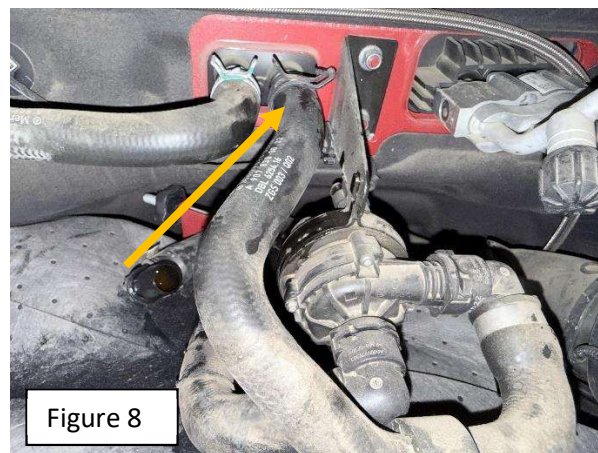

Figure 8
- c. Remove the screw clamp connecting the MB hose to the Rixen green stripe hose, discard clamp. Remove the spring clamp connecting the Rixen hose to the heater core outlet. Save spring clamp for reuse. see figure 8
- d. Install the MB hose to the heater core outlet with the spring clamp; make sure the hose is seated fully and the clamp is about ¼" from the end of the hose. See figure 8